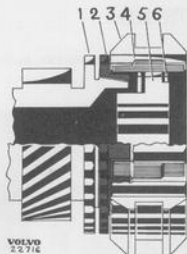
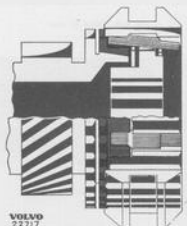
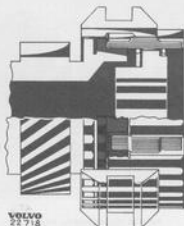

Fig. 4-19 Neutral position
Fig. 4-20. Synchronizing
Fig. 4-21 Gear engaged
The design and function of the synchronizing mechanism are shown in Figs. 4-19—4-21. When a gear is engaged, the gear selector fork presses the engaging sleeve (3, Fig. 4-19) towards the corresponding gear. The inserts (4) then press the synchronizing cone (2) against the cone on the gear (1). If the synchronizer and gear wheels are rotating at different speeds, the synchronizing cone will turn in relation to the engaging sleeve. However, the synchronizing cone is prevented from turning more than half a tooth-width by the engaging springs, see Fig. 4-20. The teeth on the synchronizing cone then have half their width in contact with the teeth on the engaging sleeve and in this way prevent it from engaging. Due to friction between the synchronizing cone and the gear, the gear attains the same rotational speed as the synchronizer. When they are both rotating at the same speed, the engaging sleeve is able to turn back the synchronizing cone and the gear engages, see Fig. 4-21.